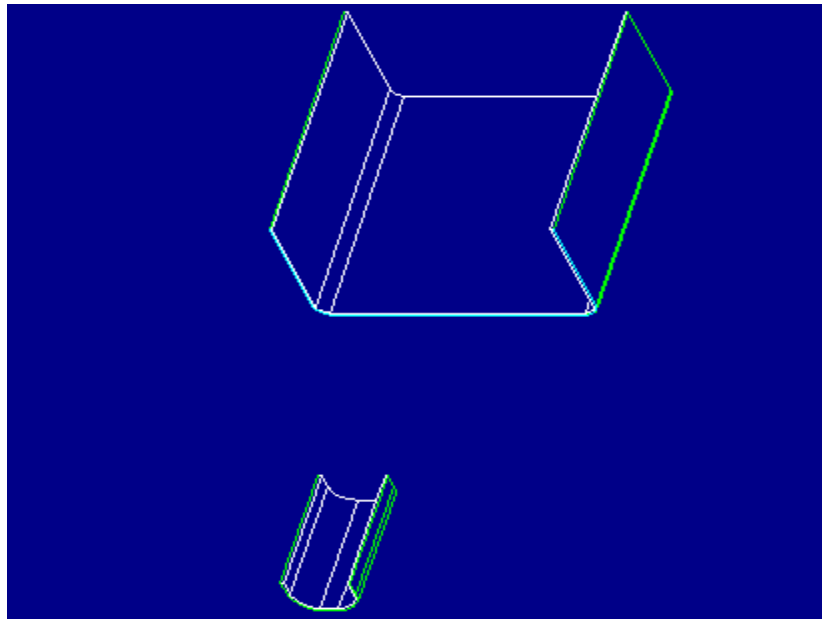

Figure 5
5. The next step is to build the intermediate wall. Select **Feature, Create, Surface, Advanced,** and **Done.** Select **Boundaries, Done, Blended Surf,** and **Done.** The first curve is the lower, front set of edges on the large wall, as shown in Figure 5. Select **Chain** from the SELECT ITEM menu and **Tangent Chain.** Pick anywhere on the curve shown in Figure 5 and select **Done.**